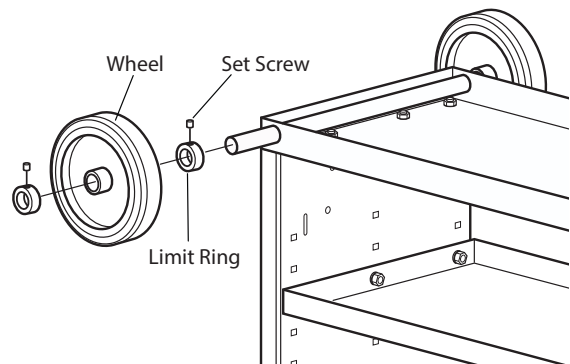

Figure 4-17
- Loosen the set screw (item #17) in the four Limit Rings (item #16) (see Figure 4-17). Slide a Limit Ring over each end of the Axle, followed by a Wheel (item #15) and the remaining Limit Ring. Snug the Limit Rings and Wheels to the Base. **Fully tighten the Limit Ring set screws to the Axle.**